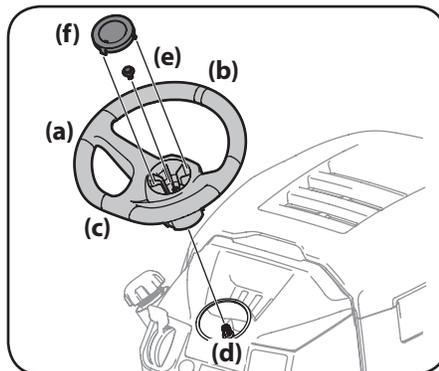

Figure 2-9
2. Position the bumper brackets to the *inside* of the tractor's frame and secure it in place with the four hex flange screws (a). See Figure 2-9.